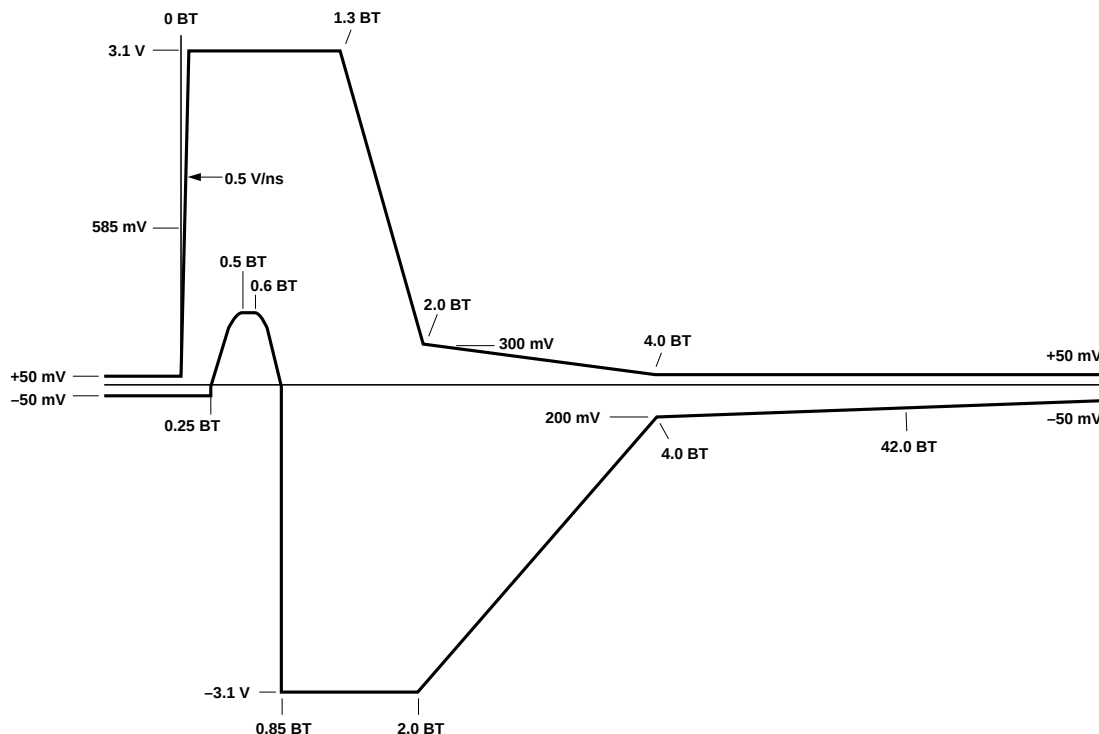

Figure 7. Link Pulse Output Voltage Template \_ NLP, FLP
The 80220/80221 uses the same 10Base-T link integrity algorithm that is defined in IEEE 802.3 Clause 14. This algorithm uses normal link pulses, referred to as NLP's and transmitted during idle periods, to determine if a device has successfully established a link with a remote device (called Link Pass state). The transmit link pulse meets the template defined in IEEE 802.3 Clause 14 and shown in Figure 7. Refer to IEEE 802.3 Clause 14 for more details if needed.
As stated previously, the AutoNegotiation algorithm is used for two purposes: (1) To automatically configure the device for either 10/100 Mbps and Half/Full Duplex modes, and (2) to establish an active link to and from a remote device. The AutoNegotiation algorithm is the same algorithm that is defined in IEEE 802.3 Clause 28. AutoNegotiation uses a burst of link pulses, called fast link pulses and referred to as FLP's, to pass up to 16 bits of signaling data back and forth between the 80220/80221 and a remote device. The transmit FLP pulses meet the template specified in IEEE 802.3 and shown in Figure 7. A timing diagram contrasting NLP's and FLP's is shown in Figure 8.